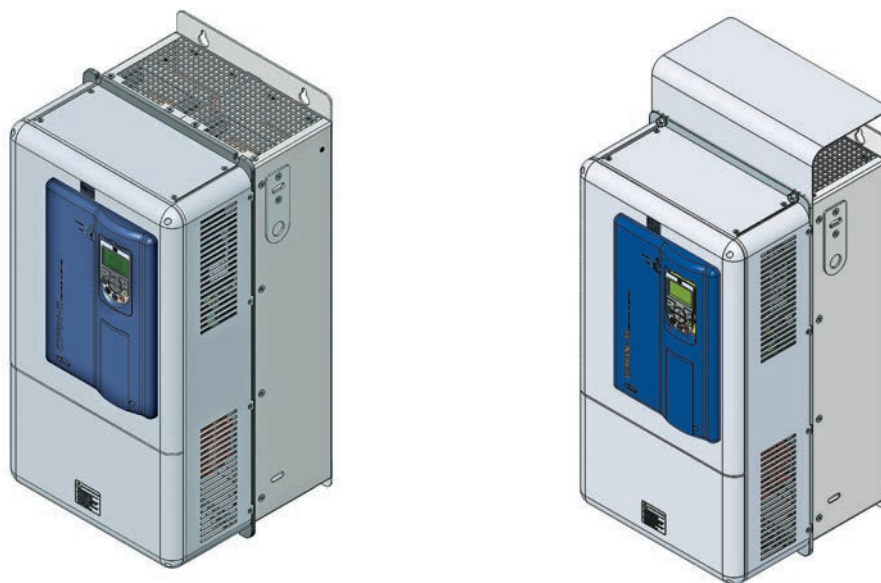

Figure 3.5 - Installation of the Nema1 kit top ("hat")
- ☑ Install the Nema1 kit top on the inverter as showed in the figure 3.5 using the 2 M8 screws supplied with the product.